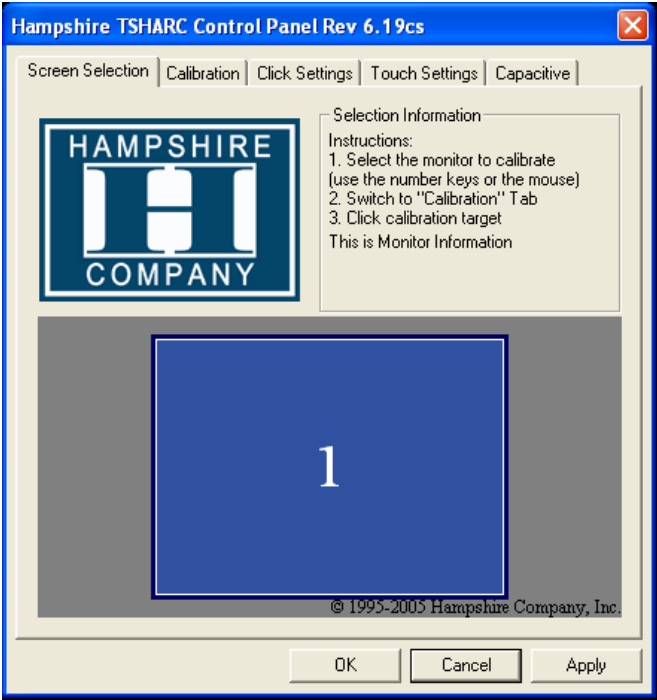

FIGURE 20. TSHARC Control Panel
3. Select the “Calibration” tab. See FIGURE 20.